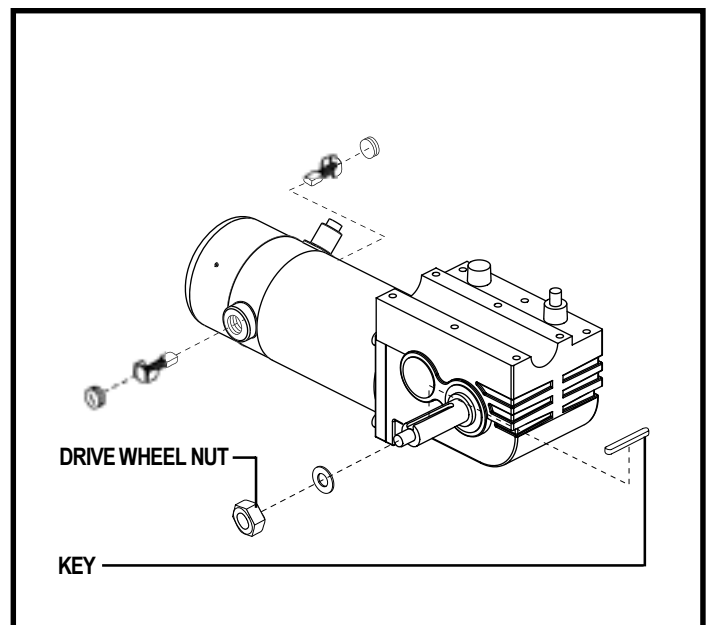

Figure 24. Motor
4. Remove the drive wheel nut from the wheel hub. See figure 24.
9. Slide the wheel back onto the shaft. Make sure that the key is in the axle slot. See figure 24.